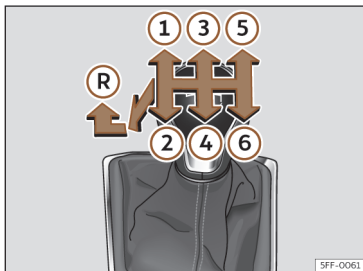

Fig. 120 Diagram of a 6-speed manual gearbox.
Gear positions are indicated on the gear lever >>> **Fig. 120**.
- With the gear lever in neutral, push it down, move it all the way to the left and then forwards to select reverse gear >>> **Fig. 120 (R)**.